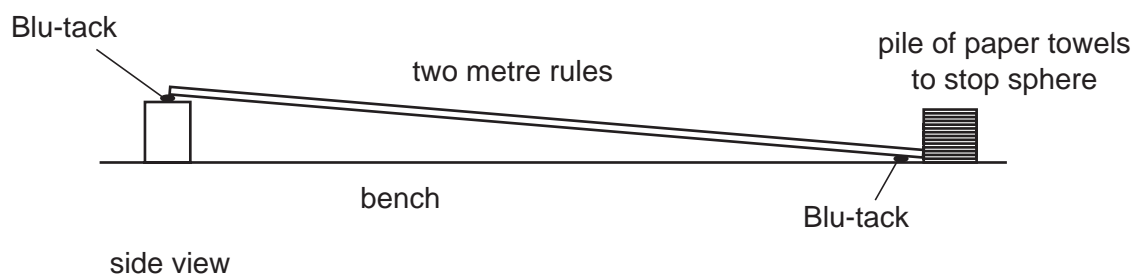
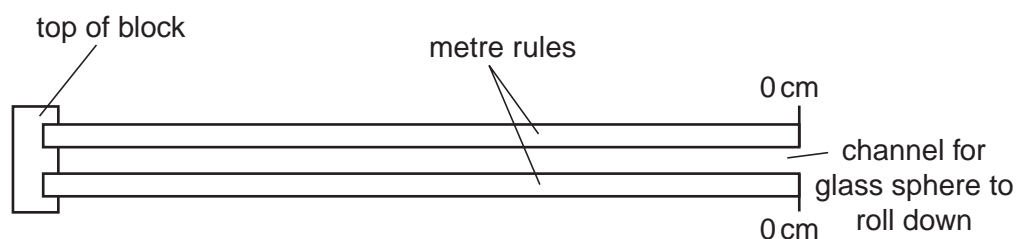

Fig. 4.1
Fig. 4.2
- (i) The wooden metre rules and wooden block should be set up by the Supervisor to form a ramp, as shown in Fig. 4.1 and Fig. 4.2.